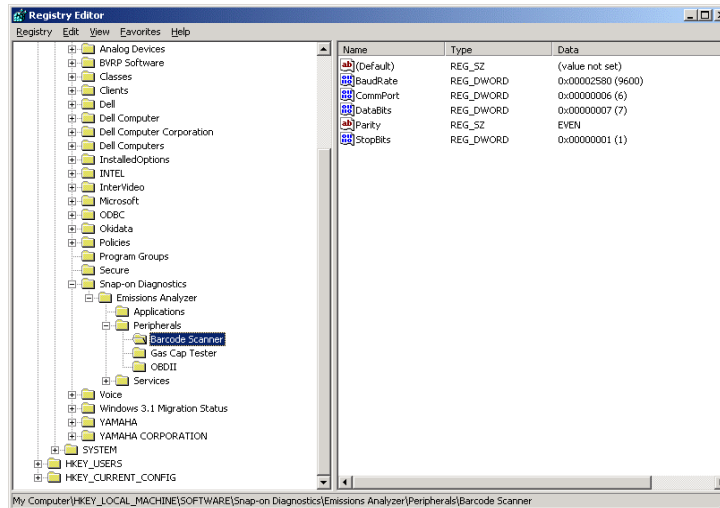

Figure 1, Registry Editor
3. Enter the system registry by clicking "**Start**", "**Run**". Type REGEDIT and press **<Enter>**. Navigate to the following as shown in Figure 1. HKEY\_LOCAL\_MACHINE\Software\Snap-on Diagnostics\Emissions Analyzer\Peripherals.